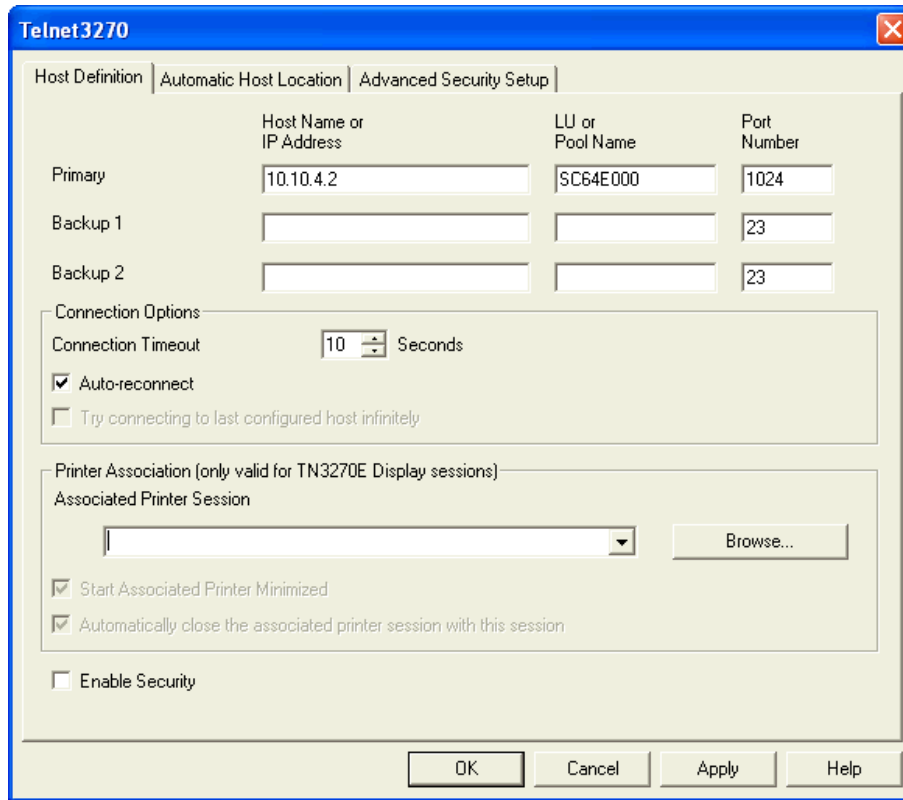

Figure E-2 PCOMM telnet3270 host definition
- This displays the Telnet3270 notebook Host Definition page (Figure E-2). For details about the settings used in the subsequent steps, refer to “TN3270E session configuration” on page 35.